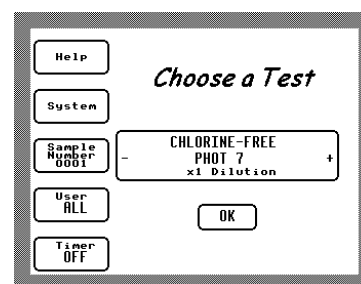

Figure 4 - Main Screen
To switch the instrument ON, press and hold the power switch, located near the base on the right-hand side at the rear of the instrument, until the instrument beeps. After initial diagnostic checks, the main display will appear – see Figure 4 :-
- Touch **+** and **-** to increment the test by PHOT Number, (see Figure 4) or